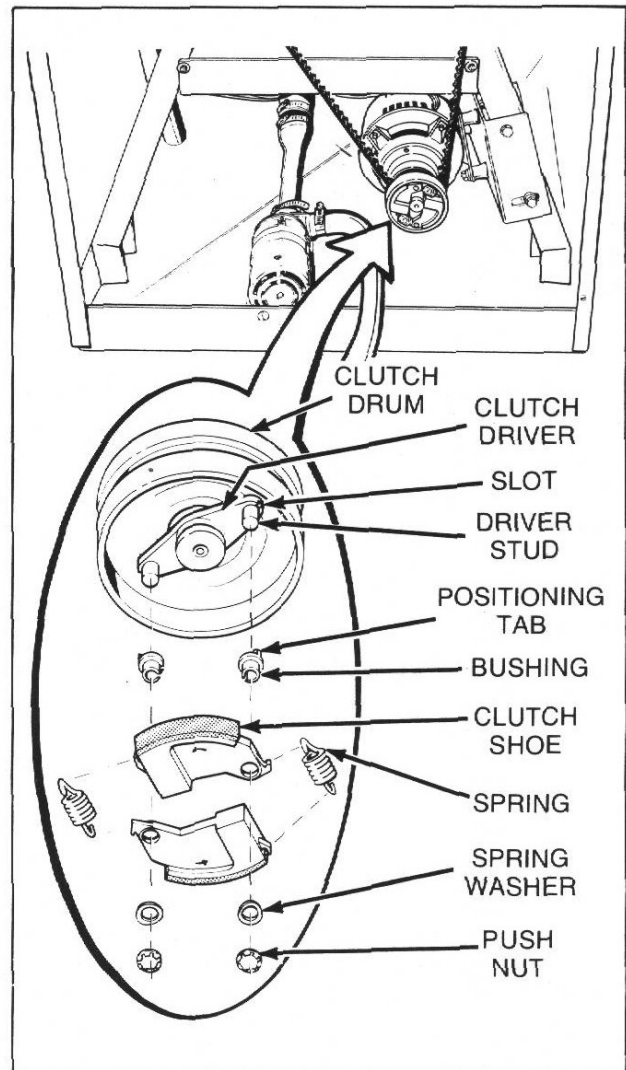

Figure 31
### 32. No. 355P3 CLUTCH REPAIR KIT (Refer to *Figure 31*)
**NOTE:** See *Figure 31* for clutch shoe assembly sequence. Arrows must be facing out on shoes, and pointing in direction of spin.